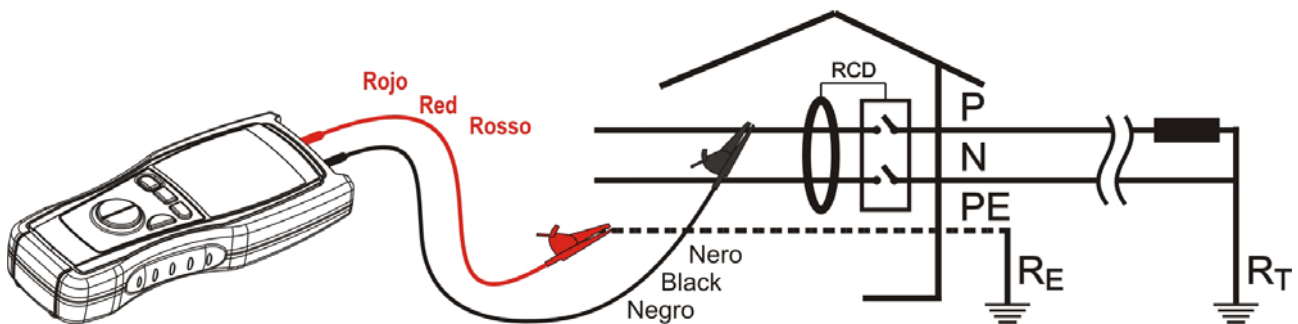

Fig. 8: Connection of the instrument's terminals during  $M\Omega$  test
7. Connect the instrument's terminals to the end of the conductors on which the insulation test must be performed (see Fig. 8)